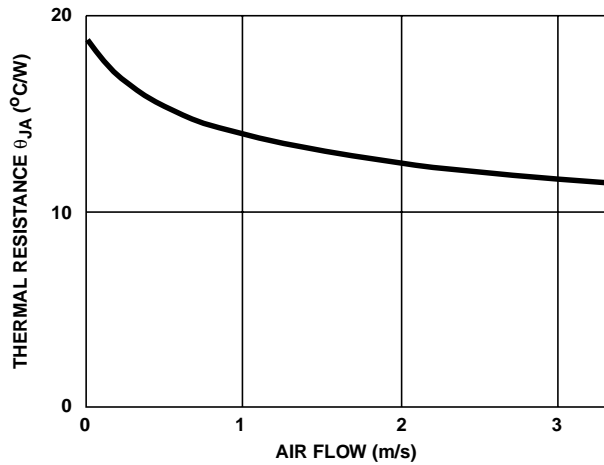

FIGURE 2. THERMAL RESISTANCE MOUNTED ON-BOARD
5.  $T_A$  is specified in still air and without heatsink. To extend temperature range, appropriate heat management techniques must be employed (See Figure 2).